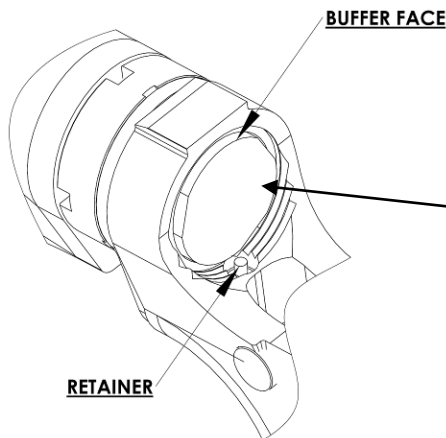
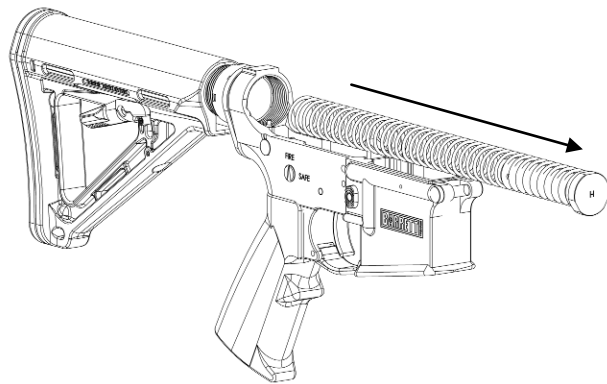

Figure 32-1
Figure 32-2
1. The retainer and the buffer must be held simultaneously in order to remove safely. (Figure 32-1). Push on the buffer face while holding the retainer down with another finger or a suitable tool. Carefully remove the buffer with the buffer spring. (Figure 32-2).